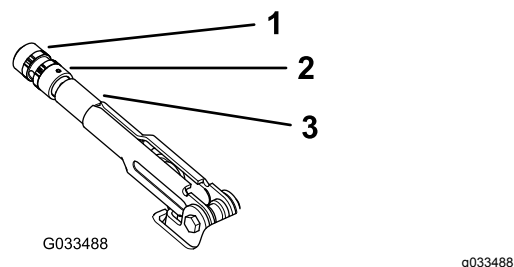

Figure 57
3. Rotate the knob (Figure 57) until a force of 20 to 22 kg (45 to 50 lb) is required to actuate the lever.
4. Tighten the set screw when finished (Figure 57).